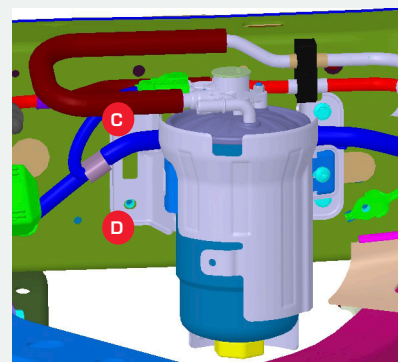

FIGURE 4A
- 2 Remove LH two OE filter factory M6 x 25 bolts from point C & D as per FIG. 4A.
- 3 Loosen the factory clamp marked 1. Loosen the factory fuel hose quick connectors E & F and take out the fuel supply line from the tank to the factory filter. Have a rag ready to capture any diesel that may spill out of the fuel line and the fuel filter inlet pipe as per FIG. 4A & 4B.